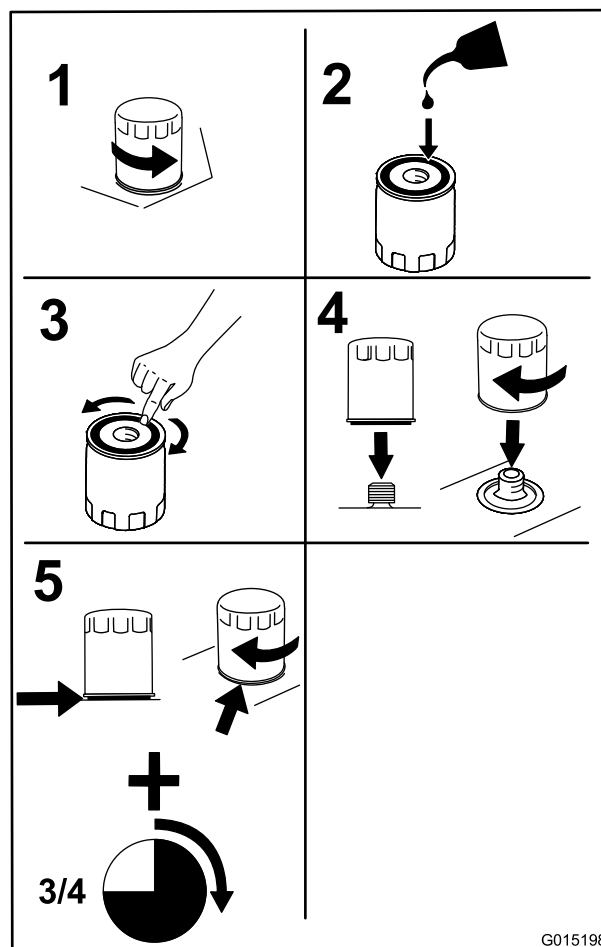

Figure 35
3. Change the engine oil filter as shown in Figure 35.